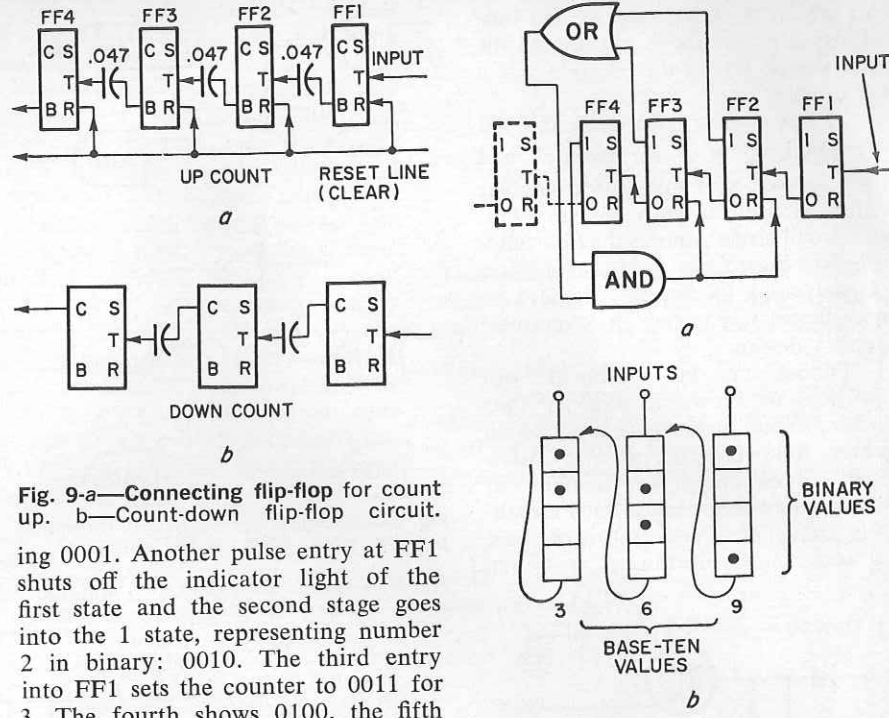

Fig. 9-a—Connecting flip-flop for count up. b—Count-down flip-flop circuit.
When two or more such flip-flop stages are connected so one feeds the other (Fig. 9-a) a counter is formed. Make sure the signal output from the B line is coupled to the T input of the next stage through a coupling capacitor as shown. (Ground connections must be common for each stage.)
A down counter is formed by taking the complement (C) outputs of successive stages as shown in Fig. 9-b. If each flip-flop is set to 1, successive inputs to the first flip-flop will reduce the count progressively. (In some diagrams the C and B outputs are designated as 1 and 0.)